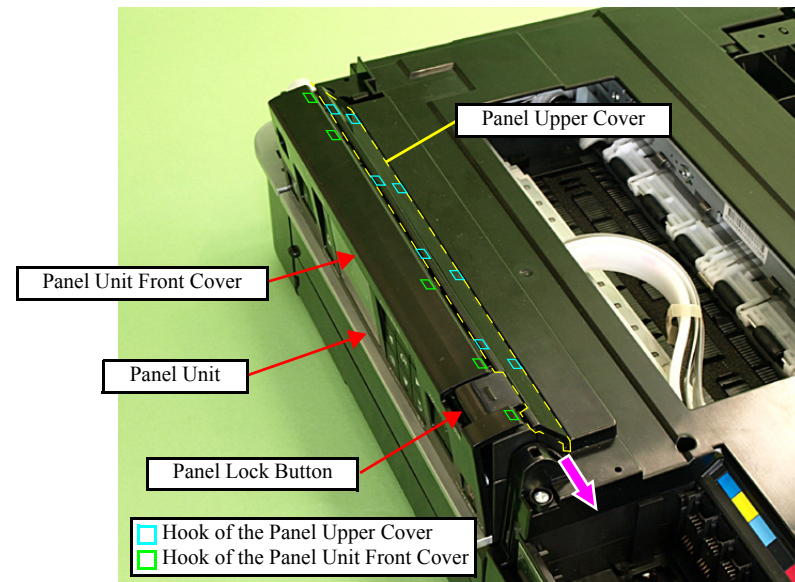

Figure 4-163. Removing the Upper Housing (1)
2. Release the hooks (x5) of the Panel Unit Front Cover. (See Fig. 4-163)